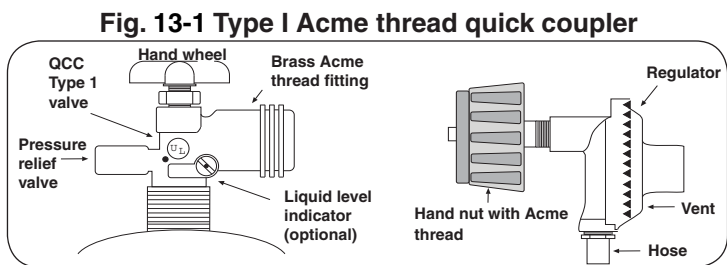

Fig. 13-1 Type I Acme thread quick coupler
- The pressure regulator and hose assembly (Fig. 13-1) supplied with this outdoor gas appliance (L.P. models only) must be used. Original and replacement pressure regulator and hose assemblies must be those specified by the manufacturer for connection with a cylinder connecting device identified as Type I by the *ANSI Z 21.58-2005/CGA 1.6-2005* (see PARTS LIST for ordering information).
To disconnect: Turn the hand nut counterclockwise until detached (Fig. 13-1).